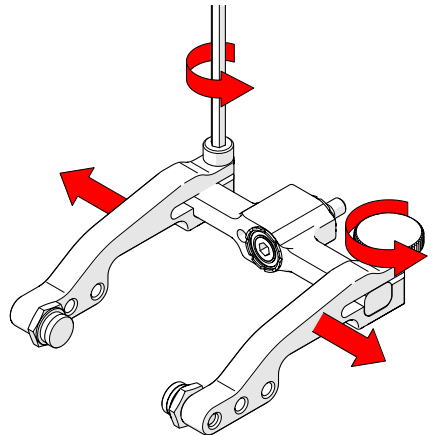

Fig. 79 - Remove arms
2. Loosen the probe holder arm adjustment knob and arm clamp screw. Slide the arms from the yoke (Fig. 79).